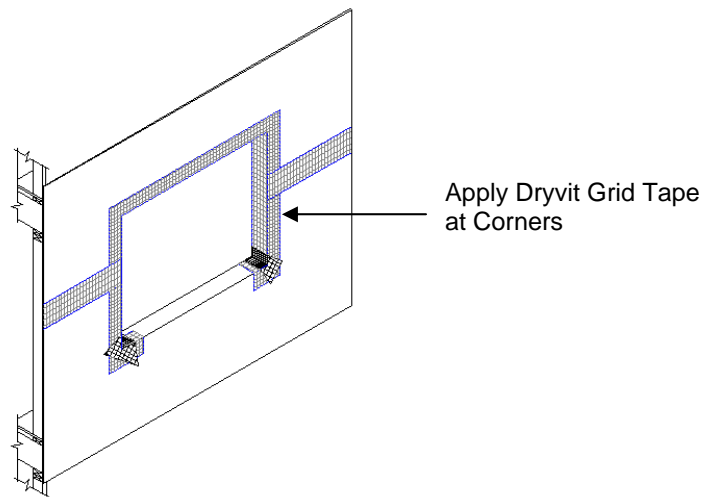

Figure 8
- 1) Apply Dryvit Grid Tape along the jambs and head of the opening as well as all sheathing joints that may intersect the opening and lap onto face of wall a minimum of 51 mm (2 in). Add additional pieces of Grid Tape at the inside corners (sill/jambs) of the opening to maintain continuity – Figure 8.